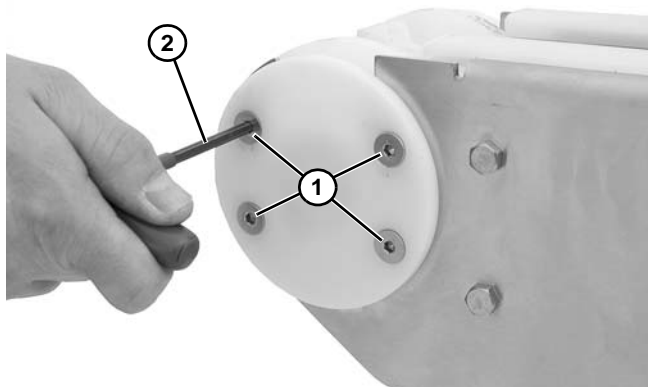

Figure 44
5. Remove four flat head screws (Figure 44, item 1) with an allen wrench (Figure 44, item 2).